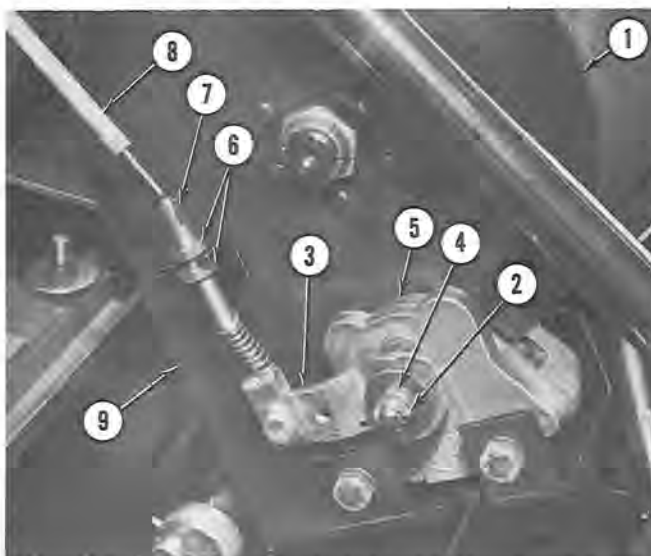

Figure 7
- Disconnect brake cable (8, figure 7) at brake mounting bracket (9) and at brake actuating lever (3).
- To adjust the brake pads (5, figure 7) to the disk (1), remove the catter pin (2) and tighten or loosen the castle nut (4) as required to permit the brake pads (5) to just clear the brake disk. Reinstall the catter pin. To adjust for excessive play in brake cable or lever position, loosen jam nuts (6) and move brake housing (7) as required. Tighten jam nuts.